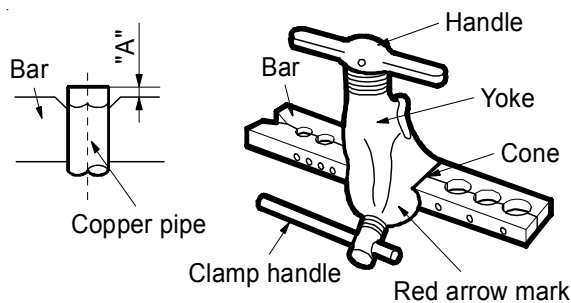

Figure 19
- Insert tube in flare tool to measurement "A" in chart. Flare tubing as shown in Figure 19. Make sure flare is free of burrs and completely formed to make a leak proof joint.